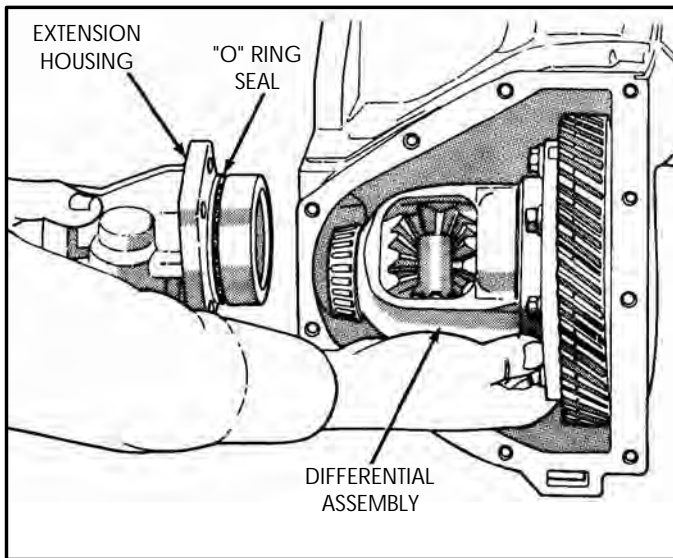

Figure 181
12. After turning torque is correct on output shaft, reinstall the differential assembly, as shown in Figure 181.
13. Install **new** "O" ring on extension housing, as shown in Figure 181, and lube with a small amount of Trans-Jel®.